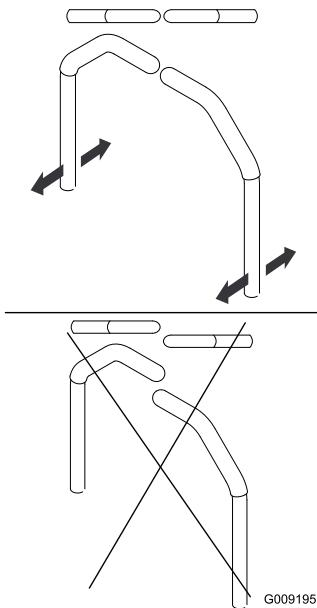

Figure 87
4. Align the levers in the front-to-rear position by bringing the levers together to the NEUTRAL position, and slide them until they are aligned, then tighten the bolts (Figure 87).